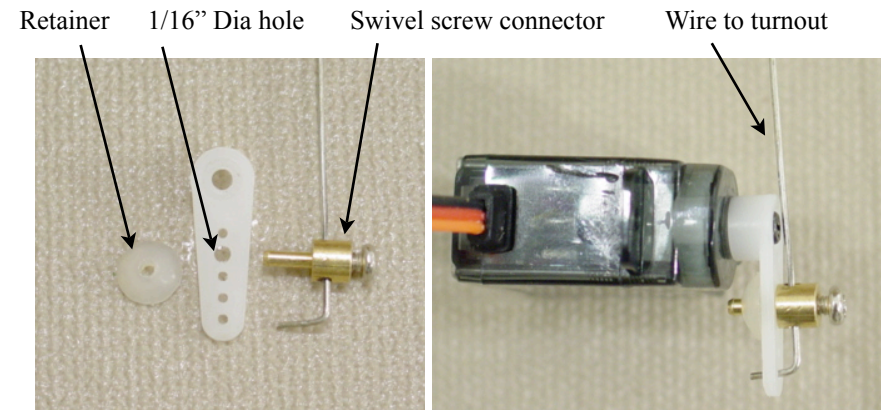

Figure 1
3. Drill a 1/16" hole in the servo arm (horn) as shown in figure 1.